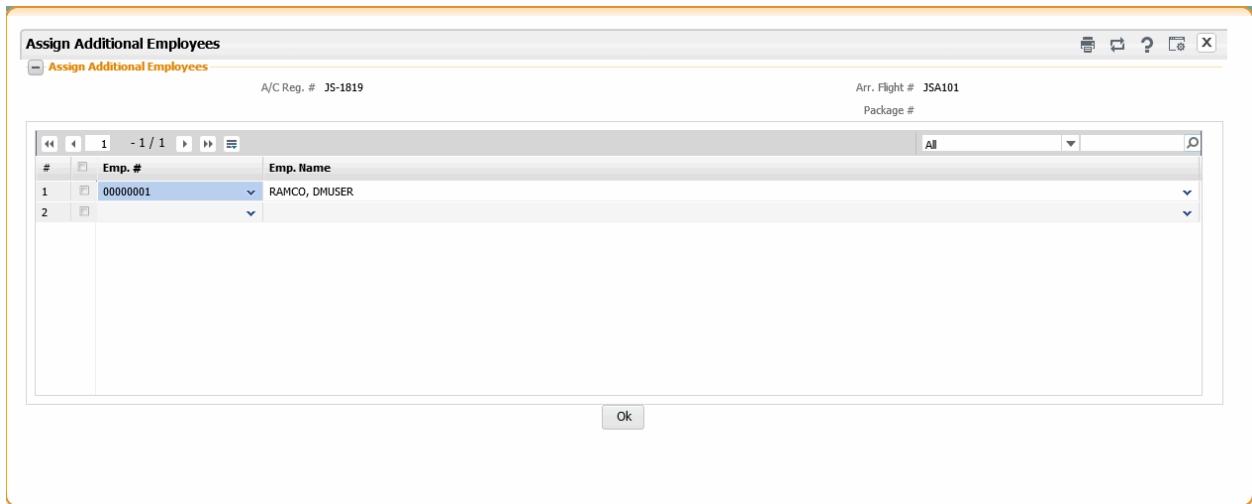

Figure 2.31: Assigning additional employees to flight/package
1. Click the **Assign** pushbutton in the **Manage Aircraft - Employee Assignment** page. The “Assign Additional Employees” page appears. See Figure 2.31.